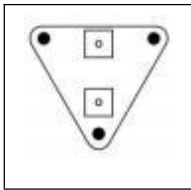

Fig.1.
- 1). Use wall panels(3) to set the required fans Position . mark three mounting holes,Drill three holes into the marked locations. Make sure your mounting area is structurally sound and free from obstruction.See the (Fig.1.)